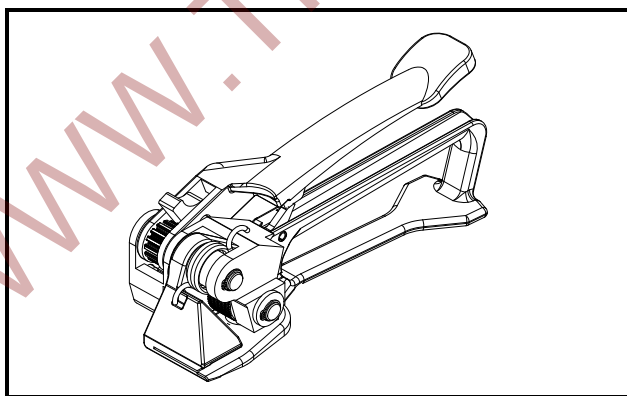

Figure 1
1. Pull strapping from cart and bring around load. Push seal on with flat side of seal facing outside of strap. (Figure 1)